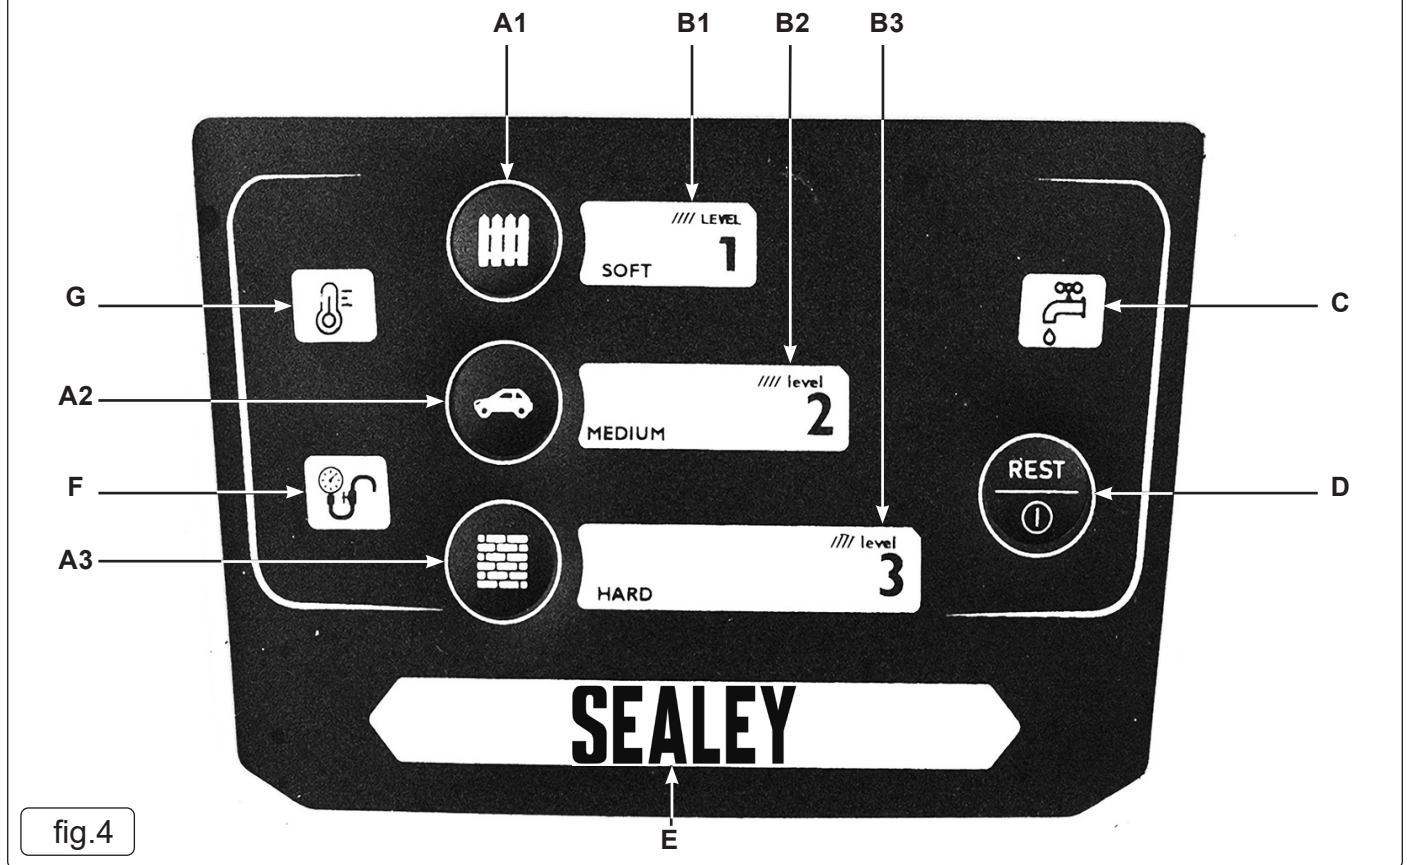

fig.4
- 5.7.1. To enter pairing, depress and hold Level 1 and Level 3 buttons (fig.4) for 2 seconds. The indicator light (fig.4.E) will flash. To exit pairing, depress and hold the Level 1 button for 2 seconds.
6.4.1. There are three levels of pressure settings (fig.4). Level 1 is the setting suitable for cleaning fences, cement terraces etc. Level 2 setting is suitable for cleaning vehicles, boats, motorcycles etc. Level 3 setting is suitable for cleaning barbecue grills, garden tools etc.